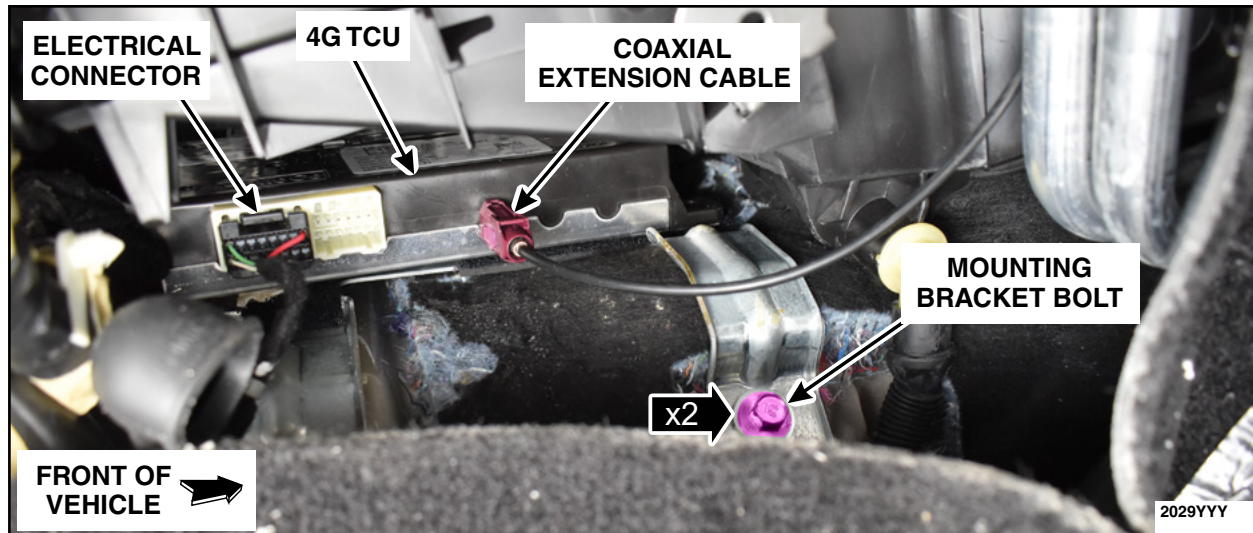

FIGURE 10
11. Install the 4G TCU and mounting bracket. See Figure 10.